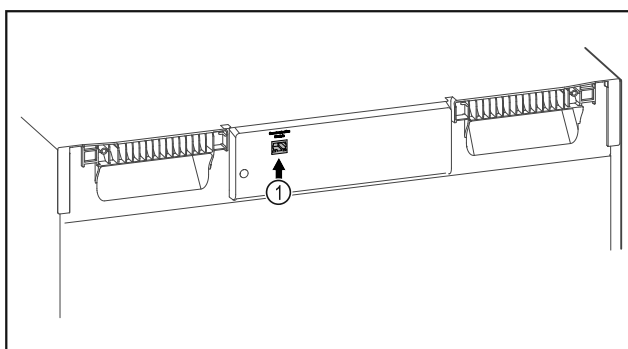

Fig. 140
- ❑ SmartModule Fig. 140 (1) is in use.